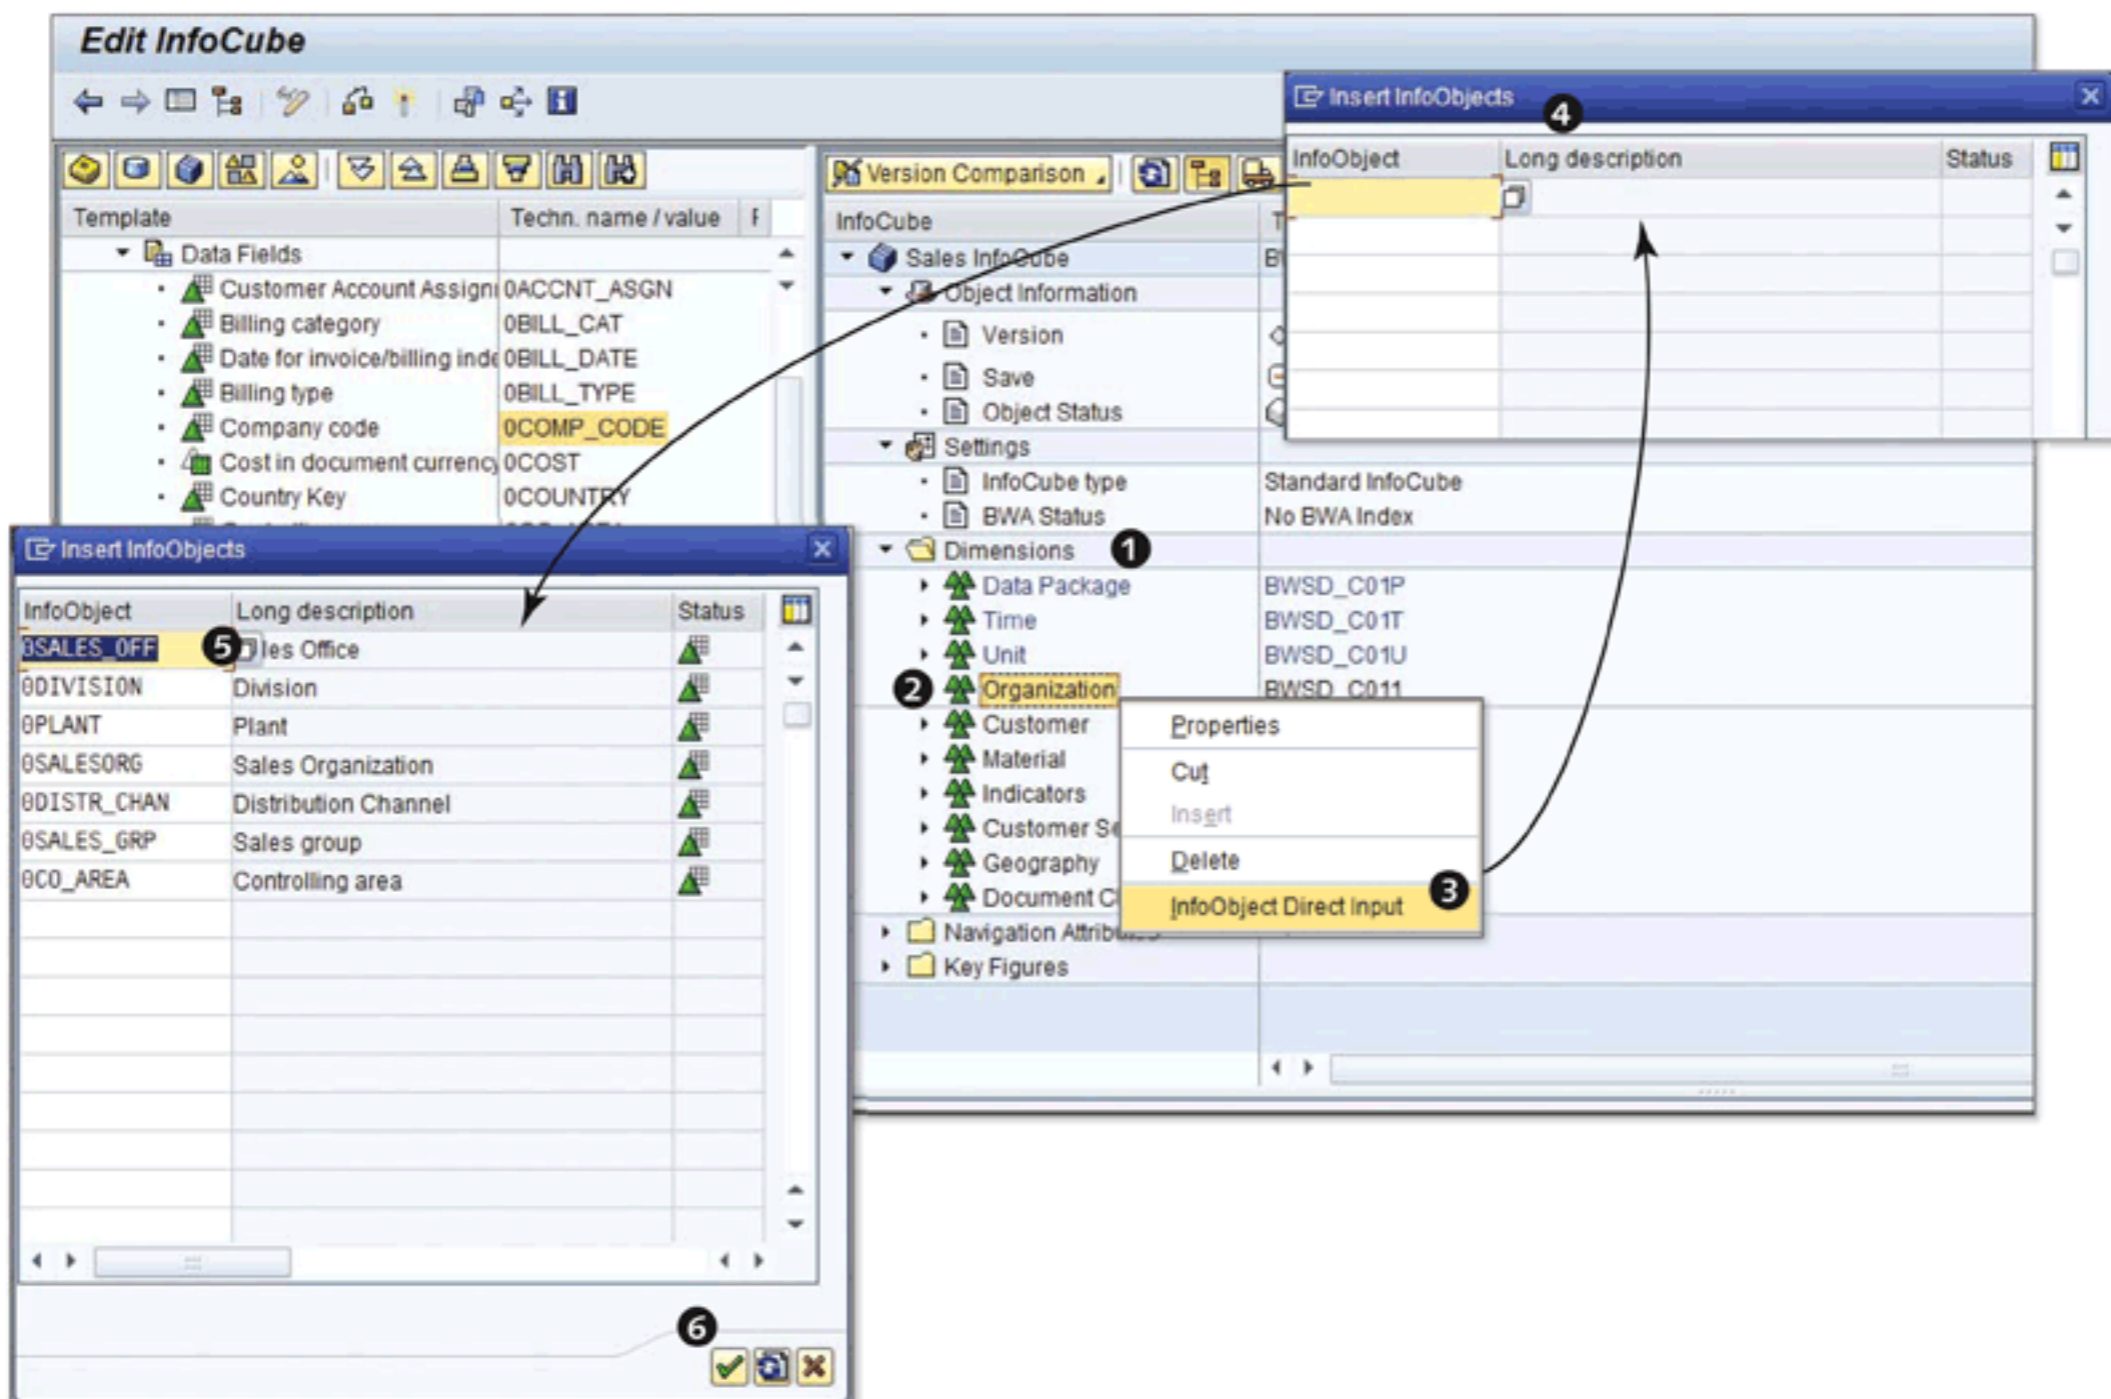

Figure 5.17 Add Characteristics to Dimensions with Direct Input
under the DIMENSIONS folder (❶ of Figure 5.17). Select the dimension to which you want to assign characteristics (❷), and select the option INFOOBJECT DIRECT INPUT (❸).